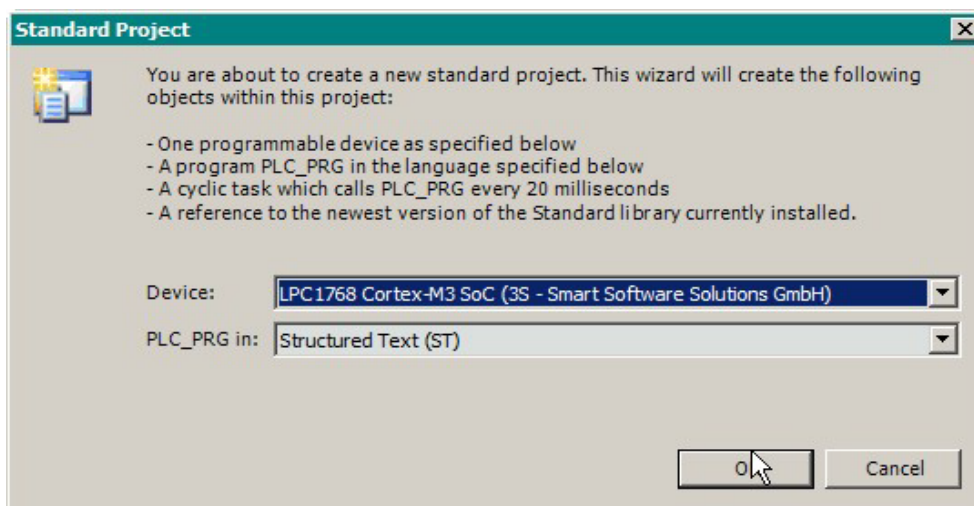
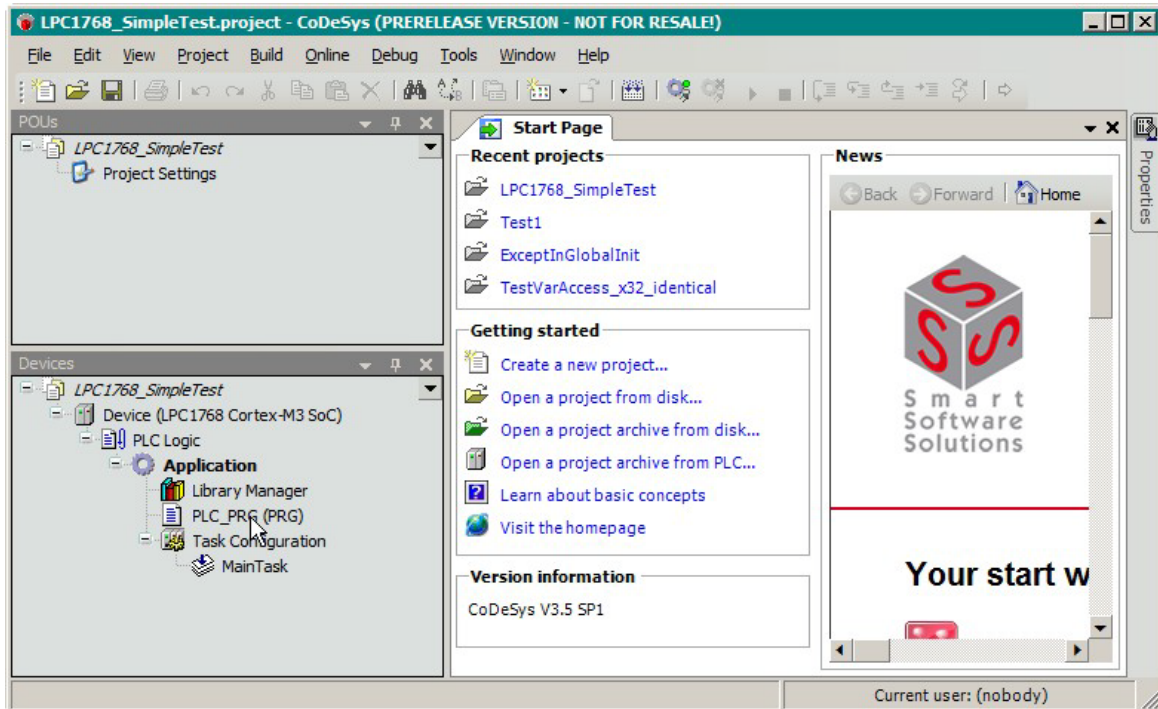

Figure 5. Selecting the target
Figure 6. New project in the CODESYS V3 main window
2. Select *Standard project* in the **Templates** pane, choose the project location in the **Location** field and type in the name of the project to be created and click **OK** to close the dialog box. The **Standard Project** dialog box will be displayed on the screen as shown in Figure 5 prompting you to select an implementation language and a target for the project.
3. Select *LPC1768 Cortex-M3 SoC (3S-Smart Software Solutions GmbH)* as shown in Figure 5 and click **OK** to close the dialog box. The new project will be created and displayed in the CODESYS main window as shown in Figure 6.